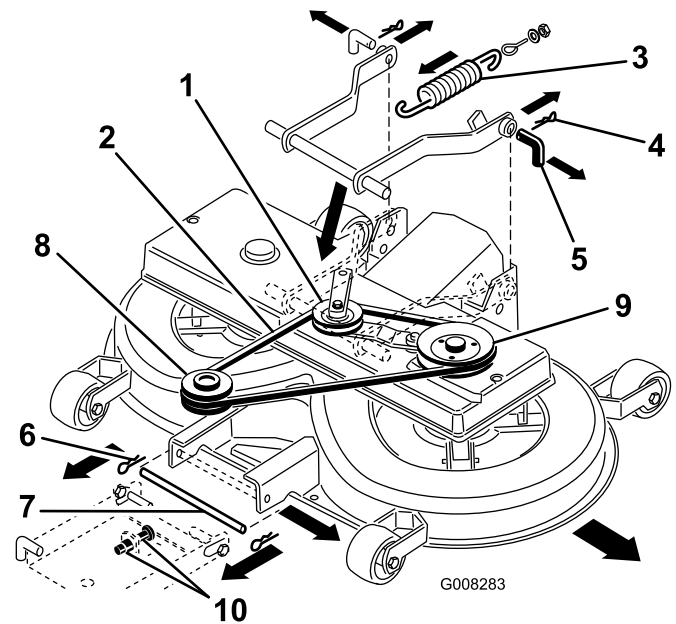

Figure 42
8. Pull the idler arm assembly in and remove the V-belt from the pulley (Figure 42).
9. Disconnect the spring from the engagement lever (Figure 42).
11. Remove the hairpin clips from the 2 rear pins and remove the pins (Figure 42).
12. Remove the hairpin clip from the front pin and remove the pin (Figure 42).
13. Remove the V-belt from the engine pulley (Figure 42).
7. Move the lower pin of the front adjustment suspension into the bottom position of the slotted holes by adjusting the 2 nuts (M12) on the front suspension (Figure 42).